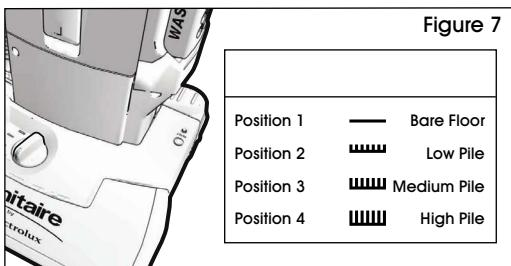

Figure 7
- The front of the cleaner has an adjustment that raises or lowers the cleaner base to match type of carpet. (See Figure 7)